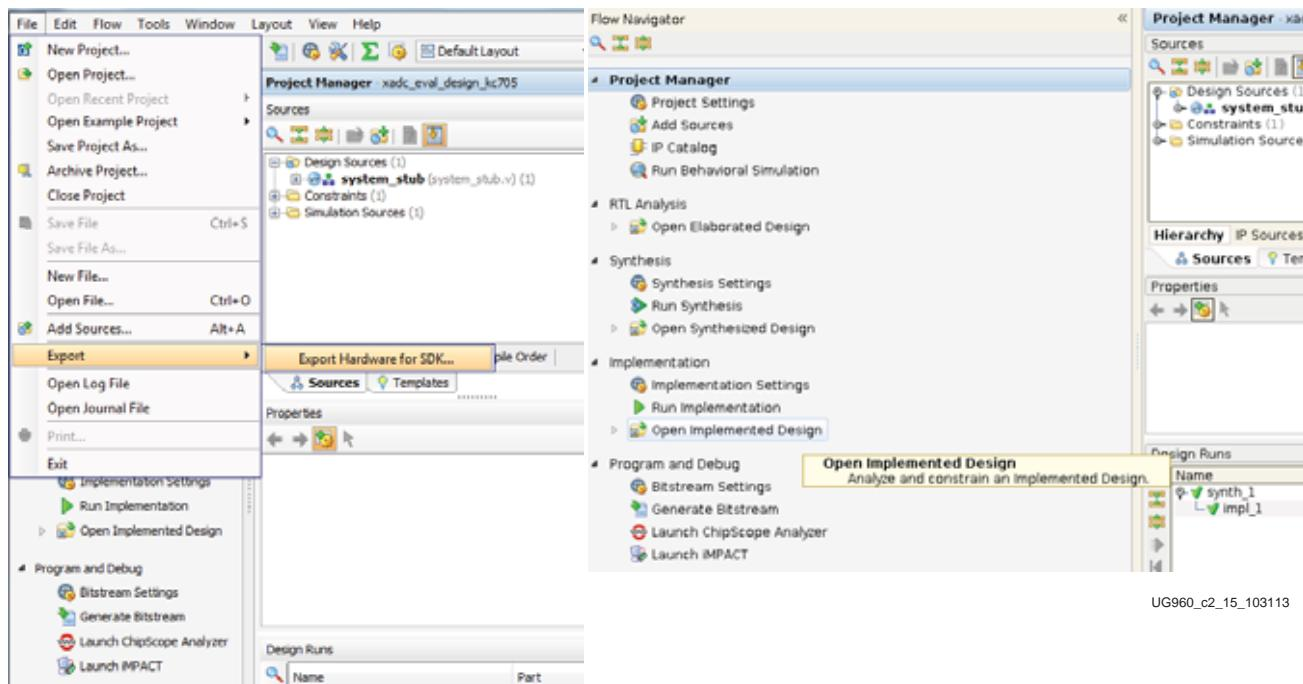

Figure 2-15: Export Design
3. Click **Open Implemented Design**. Go to **File** and select **Export Design** as shown in Figure 2-15.